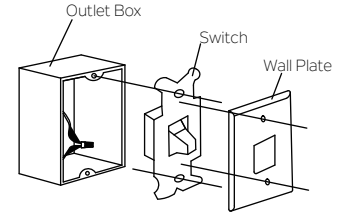

Fig. 18
Step 1. Remove the existing wall plate and the old switch from the wall outlet box. Wire nut the BLACK leads (hot) together and push back inside the outlet box. (Fig. 18) or select the desired location with a new wall outlet box.